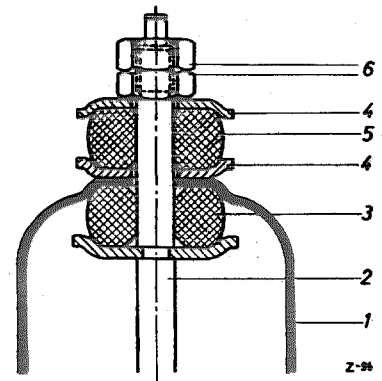

Fig. 33—2/6
23. Rub the upper and lower rubber ring of the shock-absorber mounting with talc. Then press the lower rubber ring (3) over the shock-absorber mounting bolt and pull the shock-absorber piston rod (2) out completely (see Fig. 33—2/6).
Press the upper rubber ring (5) and the cup washer (4) over the mounting bolt and screw on the two hexagon nuts (6) (see Fig. 33—2/6).
**Note:** To obtain the correct initial stress of the rubber rings, screw the lower of the two hexagon nuts (6) up to the end of the mounting bolt thread and then lock it in position with the upper hexagon nut (6).